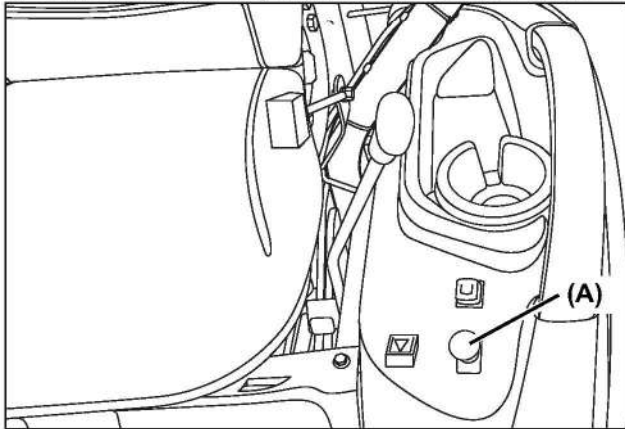

Fig 14-14
4. Pull up Power Take Off (PTO) switch (Fig 14-14, A) to ON position.